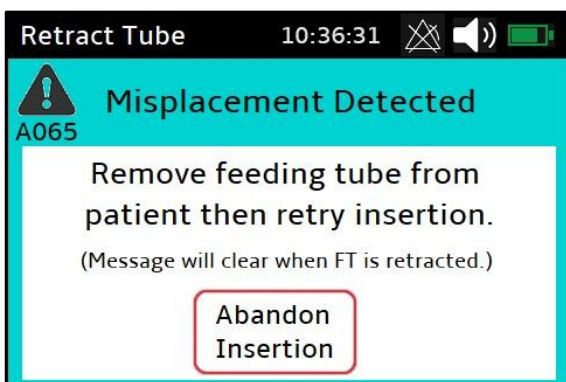

Figure 8: Safety Check Misplacement Alert
- If significant respiratory-related temperature cycling is detected or abnormal impedance levels are observed, the monitor shows a "Misplacement Detected" alert (Figure 8), and the user should withdraw the feeding tube from the patient and start over.